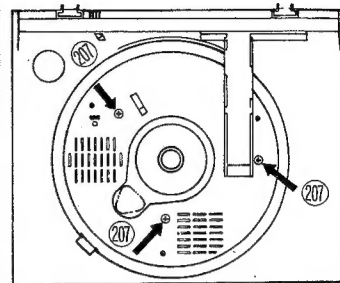

Figure 4
- 1-9. Remove the three Screws (207) which mount the case top (Fig. 4) and lift the case top.